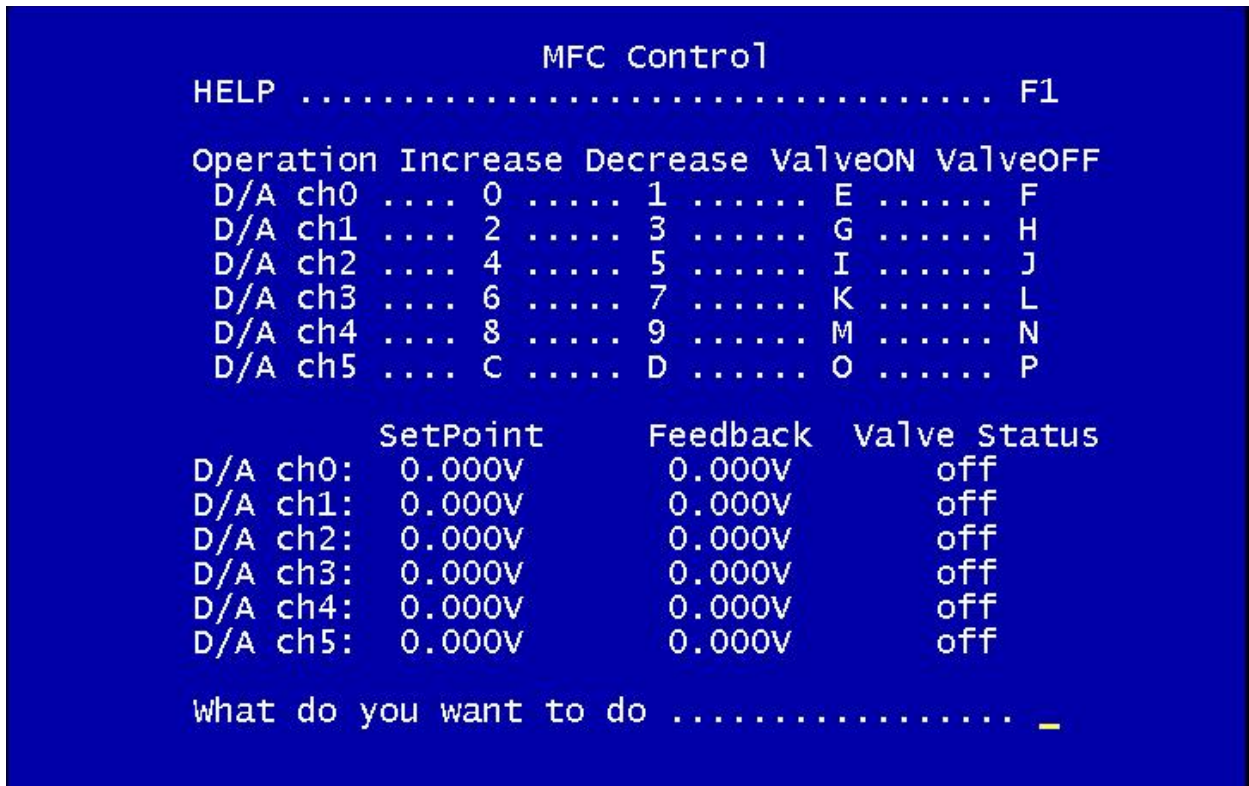

Figure 3-15. MFC Control Screen
2. The *MFC Control Screen* will appear (see Figure 3-15).